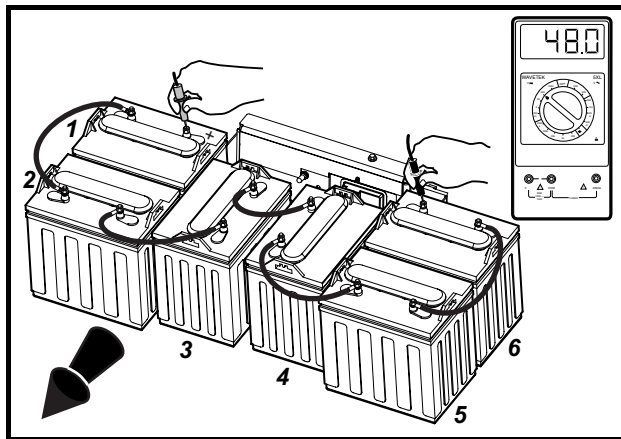

Figure 3-19 Battery Voltage Test – Precedent Style C Battery Configuration
- 4.4. **Style C 6 x 8-Volt Precedent only:** With a multimeter set to 200 volts DC, measure the voltage of the battery pack between the positive (+) post of battery no. 1 and the negative (-) post of battery no. 6 (**Figure 3-19, Page 3-20**).